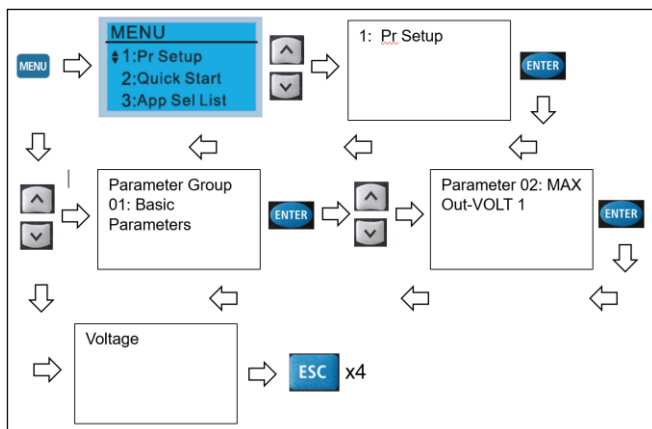

Figure 12-4. Checking Pump Station Voltage.
3. Press the **MENU** key to get to the VFD Menu (see Figure 12-4).
4. Use the **↑** and **↓** keys to scroll to option 1: Pr Setup menu. Press the **ENTER** key (see Figure 12-4).
5. Use the **↑** and **↓** keys to scroll to “Parameter Group 01: Basic Parameters”. Press the **ENTER** key (see Figure 12-4).
6. Use the **↑** and **↓** keys to scroll to Parameter 02: MAX Out-VOLT 1. Press the **ENTER** key (see Figure 12-4).